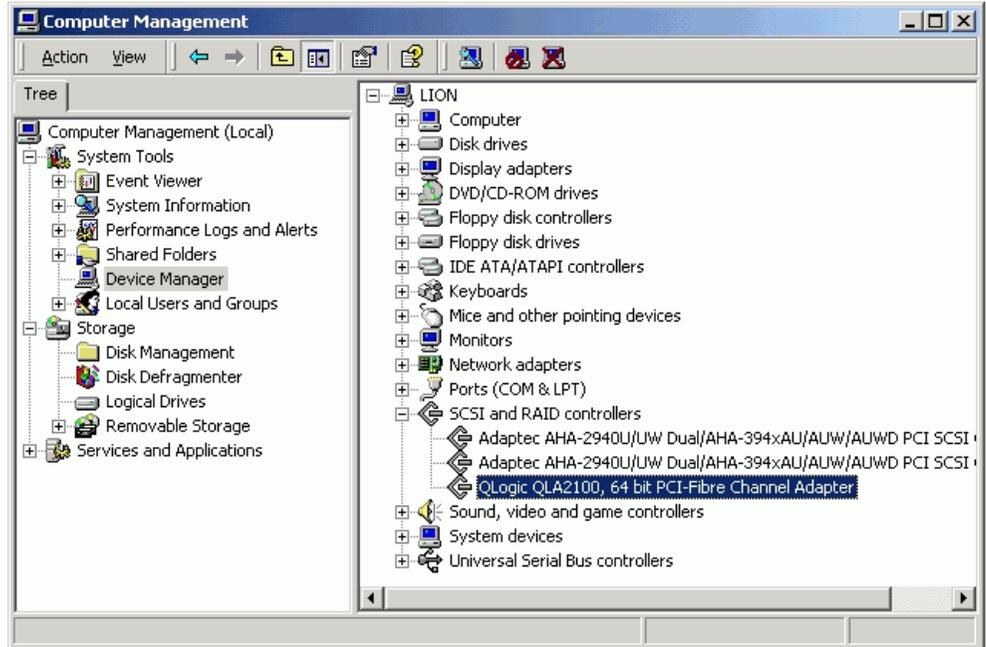
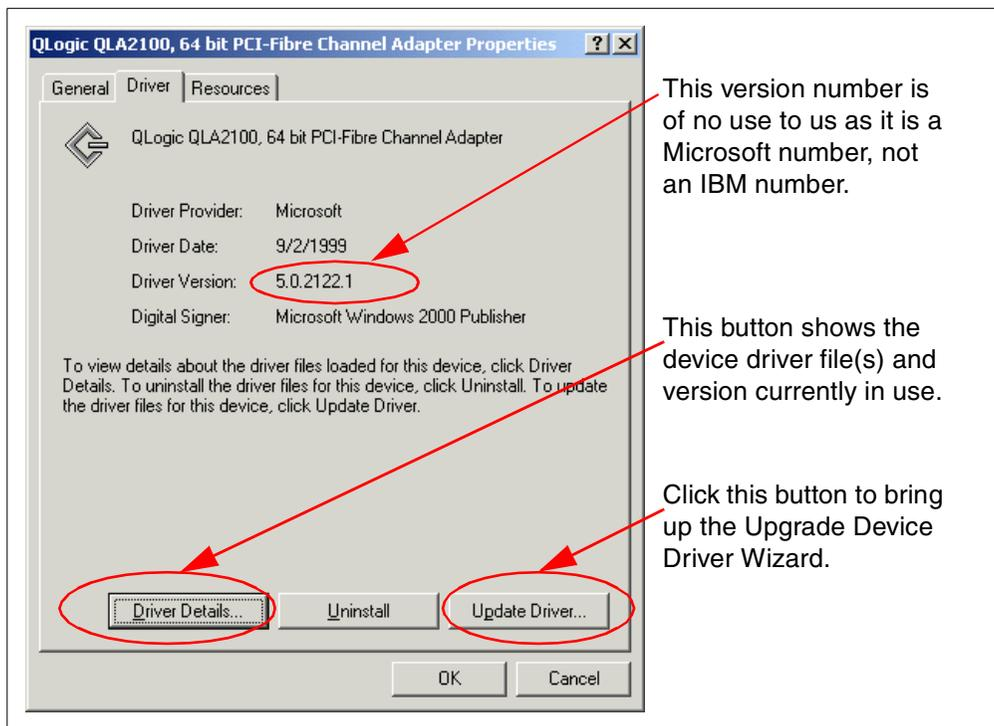

Figure 87. Device Manager: Netfinity Fibre Channel PCI Host Adapter
Figure 88. Netfinity FC PCI Host Adapter properties window
The Netfinity Fibre Channel PCI adapter is listed as the QLogic QLA2100, 64 bit PCI-Fibre Channel Adapter under the **SCSI and RAID controllers** section in Device Manager, as shown in Figure 87.
The driver that ships with Windows 2000 is Version 3.01. To verify the driver number, right-click the adapter entry in the Device Manager (Figure 87), click **Properties** > **Driver** tab and click **Driver Details...** as in Figure 88:
4. Right-click the QLogic adapter in the Device Manager and choose **Properties** from the context-sensitive menu. This brings up the Device Driver Properties window, as shown in Figure 88.